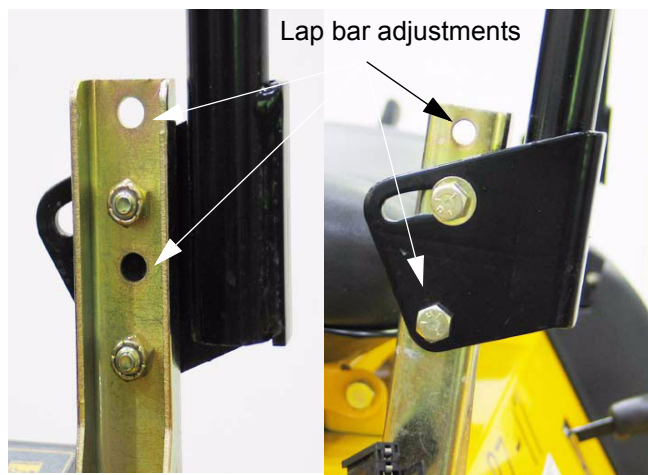

Figure 7.12
7.12. If the lap bars are not aligned with each-other, they may be adjusted using the slotted mounting where they connect to the lap bar pivot brackets. See Figure 7.12.